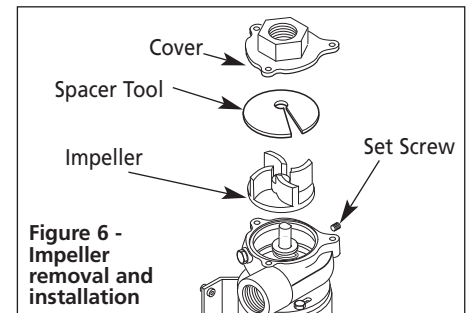

Figure 6 - Impeller removal and installation
6. Position the cover (Ref. No. 2) in place on the housing (Ref. No. 6), and while pressing down on the cover, tighten the set screw (Ref. No. 3); then install the plug that was removed in Step 2 during disassembly (See Figure 6).
(Procedures for Bronze Models - See Figures 6, 7, 8 and 10)